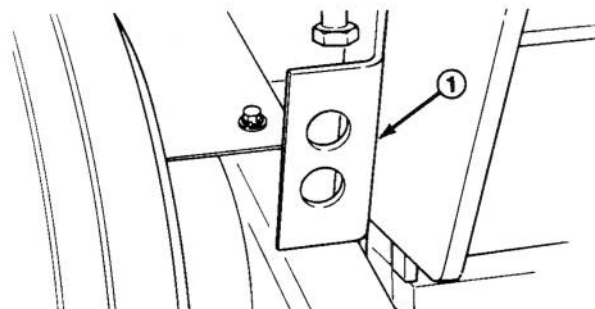

Figure 5
3. Stop the engine and raise the lock-up brackets on each side of the chassis (Fig. 5). Lower the coring head until it rests on brackets.